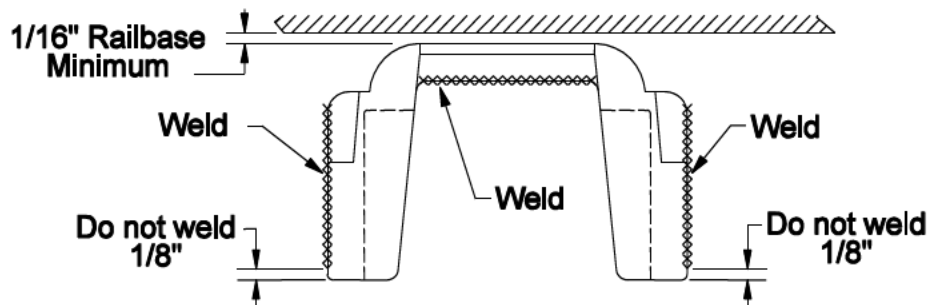

Figure 3.3.7-A
2. When installing insulated weld-on shoulders in the following applications, maintain a 5/16-inch gap between the rail base and the front face of the shoulder to allow for the installation of insulators or cast spacers (see Figure 3.3.7-B).